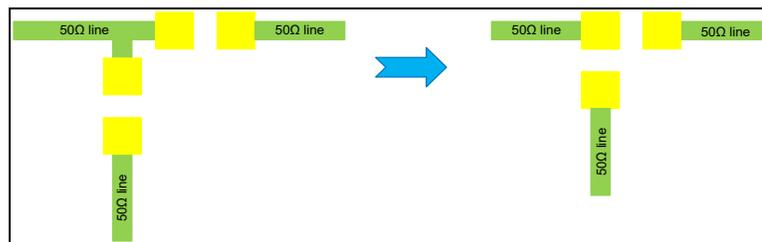

Figure 9: Bypass Component Pads Position
- ◆ If a bypass is needed, superimpose the two pads in one as shown in Figure 9 below.